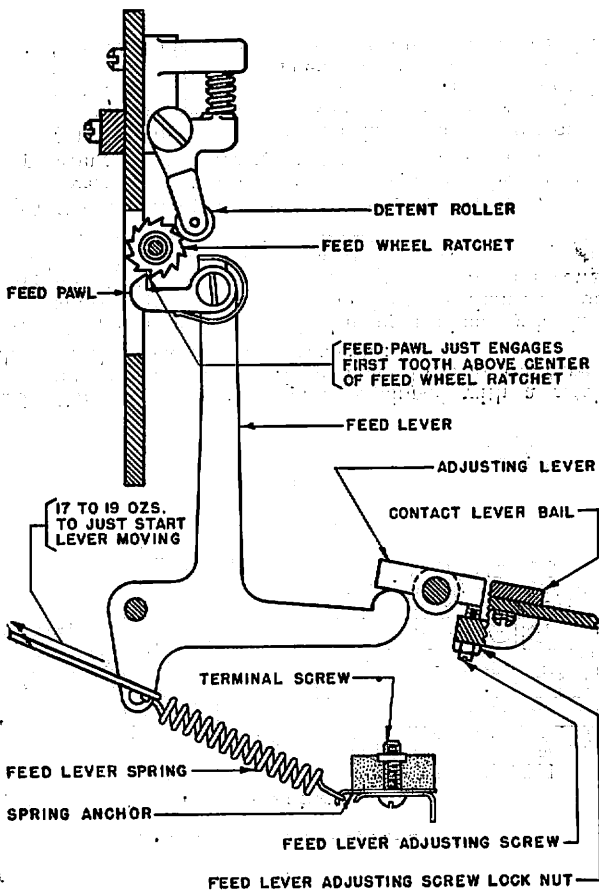

Fig. 10
(a) To adjust, operate contact lever bail by rotating the main shaft slowly by hand and reposition **feed lever adjusting screw** until feed wheel just starts to move when tops of the tape pins are flush with the surface of the tape guide on which the tape rests. See Fig. 10. Check that when the brush arm is in the stop position, the feeding of the wheel has been completed and the detent has been bottomed between two teeth.
4.33 **Feed lever spring** tension shall be Min. 17 ozs., Max. 19 ozs., measured as in Fig. 10, when the operating lever roller is on low part of its cam.